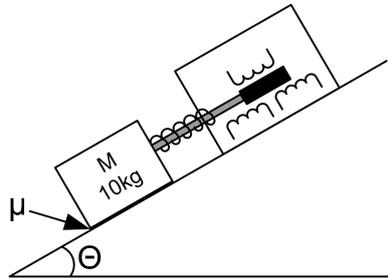
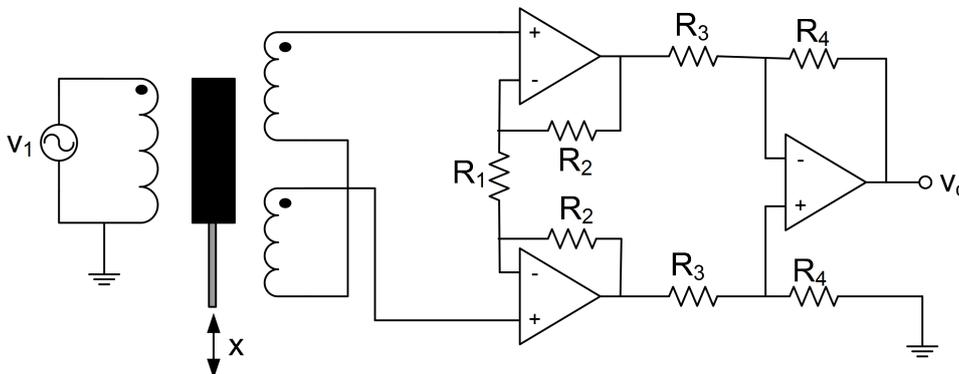
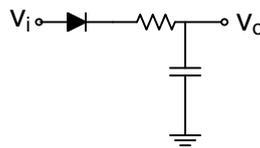
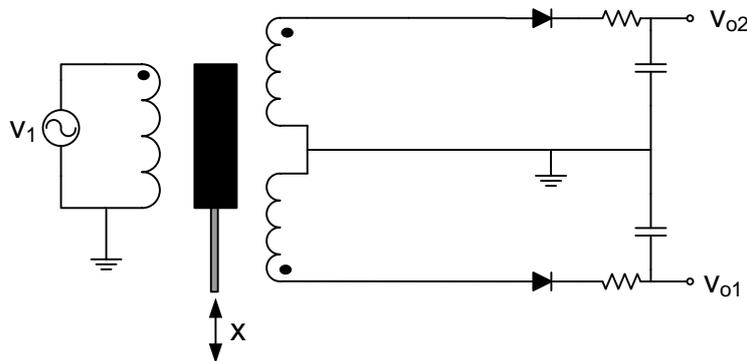

Figure 1: Measuring inclination using an LVDT.
Figure 2: Amplification of the LVDT output signal.
Figure 3: Single-sided rectifier with low-pass filter
Figure 4: Double-sided rectifier with low-pass filter.
- A certain application requires that the output voltage of the LVDT sensor is amplified. For this purpose, the sensor from Figure 1 is connected to an instrumentation amplifier. The electrical equivalent circuit is shown in Figure 2.
- (f) The output of the instrumentation amplifier from Figure 2 is connected to a single-sided rectifier with low-pass filter as shown in Figure 3. Draw the output voltage ($v_o(t)$) of the circuit when the arm is kept still at an angle of 45° .
- (h) Instead of the instrumentation amplifier from Figure 2 and the single-sided rectifier, you may connect the LVDT sensor from Figure 1 directly to a double-sided rectifier. In addition, the middle connector of the secondary windings is connected to ground. The electrical schematic of the sensor and its signal conditioning circuit is shown in Figure 4. Draw the output voltage ($v_o(t) = v_2(t) - v_1(t)$) of the circuit when the arm is kept still at an angle of 45° .